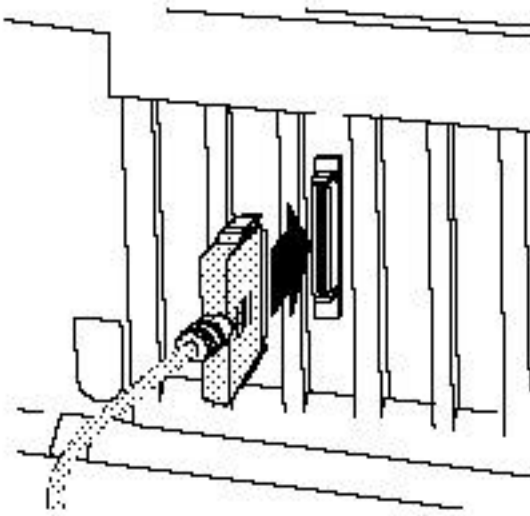

Figure 2-7: Attaching an External Cable to External SCSI Connector.
2. If you are connecting 8-bit external SCSI devices, attach one end of the 50-pin cable to the 50-pin external SCSI connector of the expansion kit. If you are connecting 16-bit external SCSI devices, attach one end of the 68-pin cable to the 68-pin Ultra Wide external SCSI connector of the expansion kit (shown in Figure 2-7.)